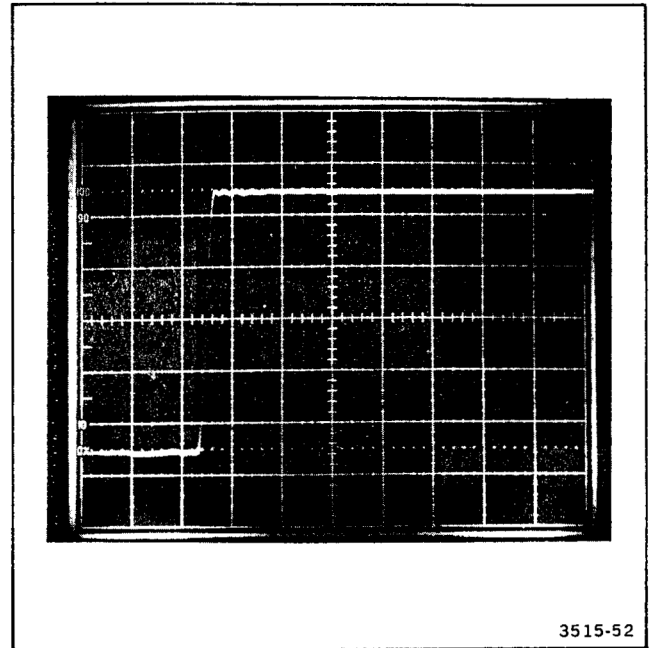

Figure 4-2. Typical display when high-frequency compensation is correctly adjusted.
- e. CHECK—Flat-top display aberrations are within 4% (± 0.2 division). See Figure 4-2 for a typical display.
- c. CHECK—Flat-top display aberrations are within 4% (± 0.2 division). See Figure 4-2 for a typical display.